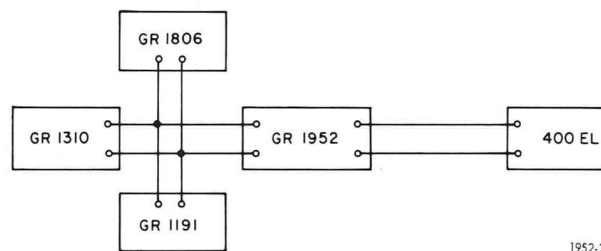

Figure 6-4. Test Set-Up for High-Pass Band Test.
- Use the set-up of Figure 6-4 and the conditions of
a. Continue to use the set-up of Figure 6-4, but with the conditions of Table 6-9.
a. Use the set-up of Figure 6-4, except use a direct connection between the filter and the 400EL (no probe). Set conditions as listed in Table 6-11.